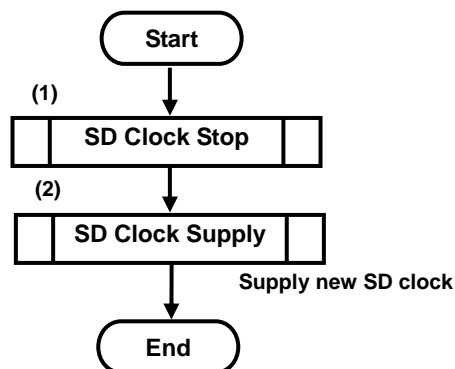

Figure 3-5: SD Clock Change Sequence
This specification uses the double box like Figure 3-1, (the step (1) in Figure 3-5 and the step (5) in Figure 3-25), It means that the other flows, which already are shown, shall be performed. Therefore, the interrupt may be included in the other flows.
The sequence for changing SD Clock frequency is shown in Figure 3-5. When SD Clock is still off, step (1) is omitted. Please refer to Section 3.2.2 for details regarding step (1) and Section 3.2.1 for step (2).